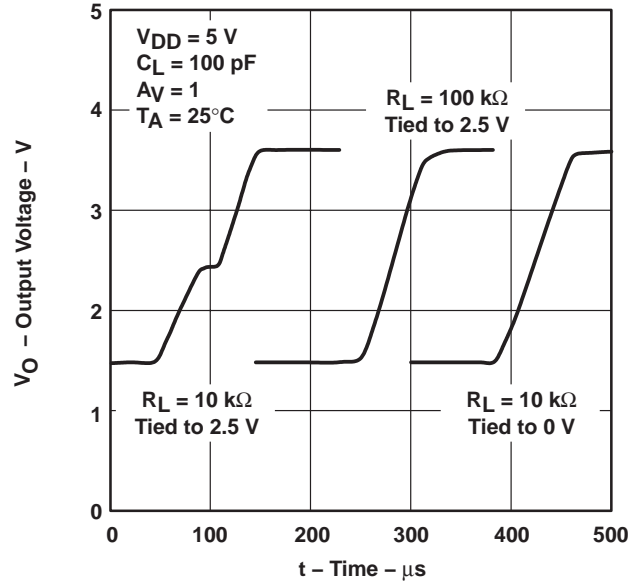

Figure 40
- Where the load is referenced. When the load is referenced to either rail, this condition does not occur. The distortion occurs only when the output signal swings through the point where the load is referenced. Figure 40 illustrates two $10\text{-k}\Omega$ load conditions. The first load condition shows the distortion seen for a $10\text{-k}\Omega$ load tied to 2.5 V . The third load condition shows no distortion for a $10\text{-k}\Omega$ load tied to 0 V .
- Load resistance. As the load resistance increases, the distortion seen on the output decreases. Figure 40 illustrates the difference seen on the output for a $10\text{-k}\Omega$ load and a $100\text{-k}\Omega$ load with both tied to 2.5 V .